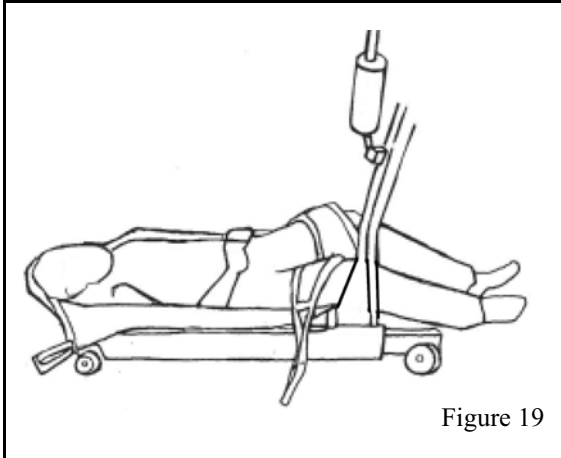

Figure 19
- 2 The spreader bar should then be hanging over resident/patient's chest and the resident/patient legs to one side of the base of lift (see Figure 19).